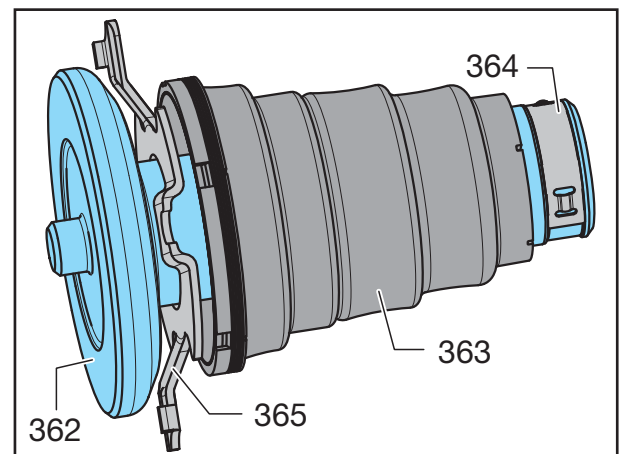

Fig. 14
- [19] Verify whether the pre-assembled tappets (362) with dirt seal (365), bellow (363) and retaining clip (364) are complete and prepare them for assembly like shown on fig. 14.